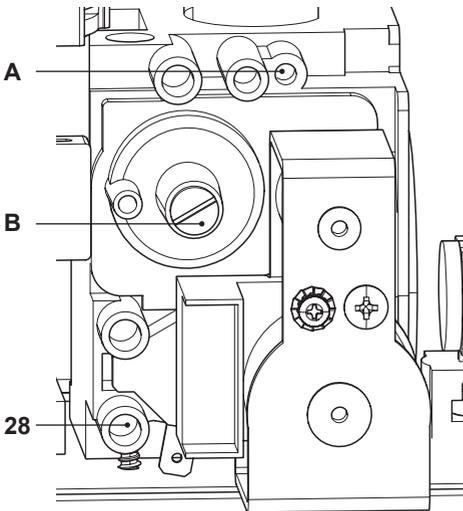

Fig. 7.6
- When the boiler is switched off (out of order), check the supply pressure by using the 28 point in Fig. 7.6 and compare the value read with that reported on the Gas supply pressure table in the "Technical Data" section (pag. 24 Advance Plus 16S, pag. 26 Advance Plus 25S and pag. 28 Advance Plus 30S).
- Close well the pressure point 28 in Fig. 7.6.